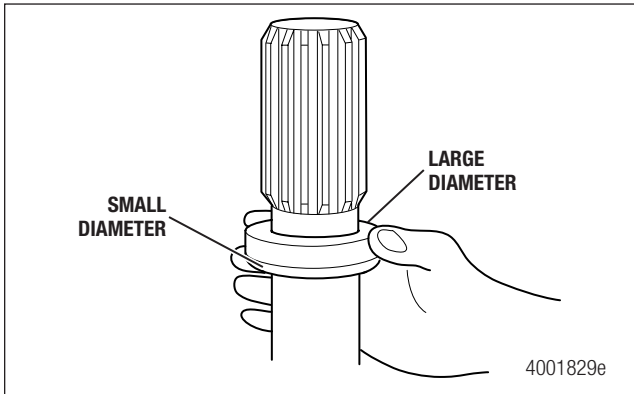

Figure 5.13
5. Install the new seal onto the spline shaft neck. Ensure that the small diameter side fits onto the splines first. Figure 5.13.